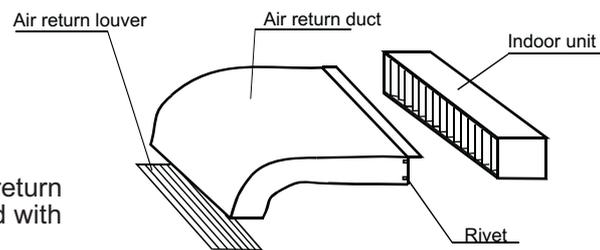

Fig. 2 Connection of air return duct
1. Drill a hole in the wall and insert the connecting pipe and wire through a PVC wall-through tube purchased locally. The wall hole shall be with a outward down slope of at least 1/100. (See Figure 2)
Use rivet to connect the air return duct on the air return inlet of the indoor unit, then connect the other end with the air return blind. As Fig. 2 shown.